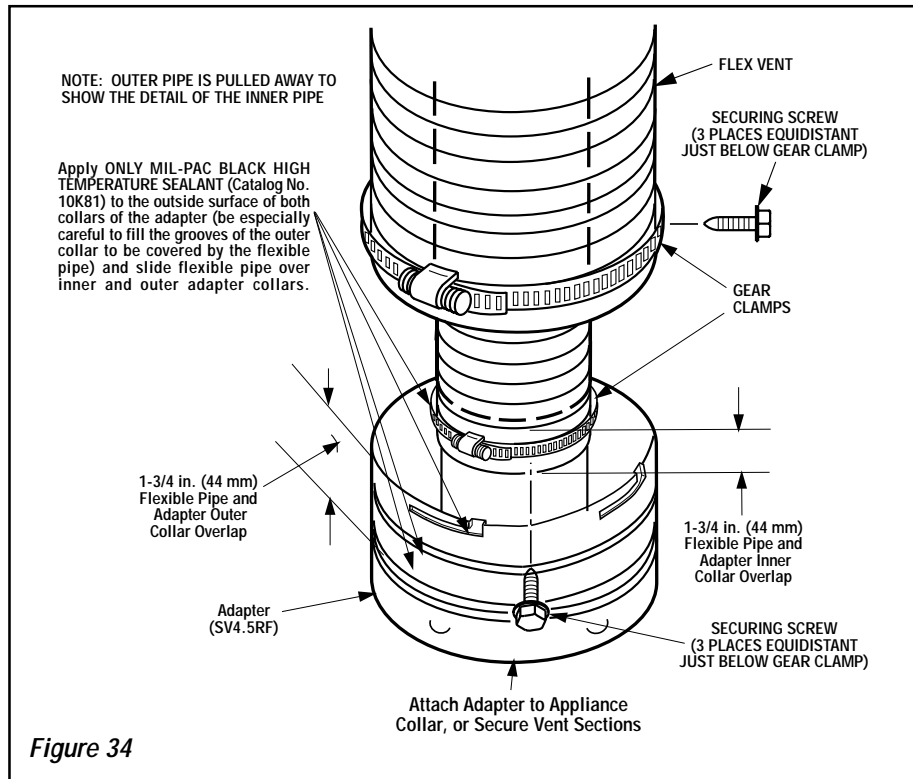

Figure 34
Attach the flexible vent to the adapter as follows (also see Figure 34):
E. Attach Flex Vent to Termination - Secure Flex components can be purchased separately and attached to bulk lengths of Secure Flex flexible tubing cut to size at the job site. Secure the flexible vent to the Secure Flex terminations in the same manner (see **Figure 34**) as it was attached to the adapter.